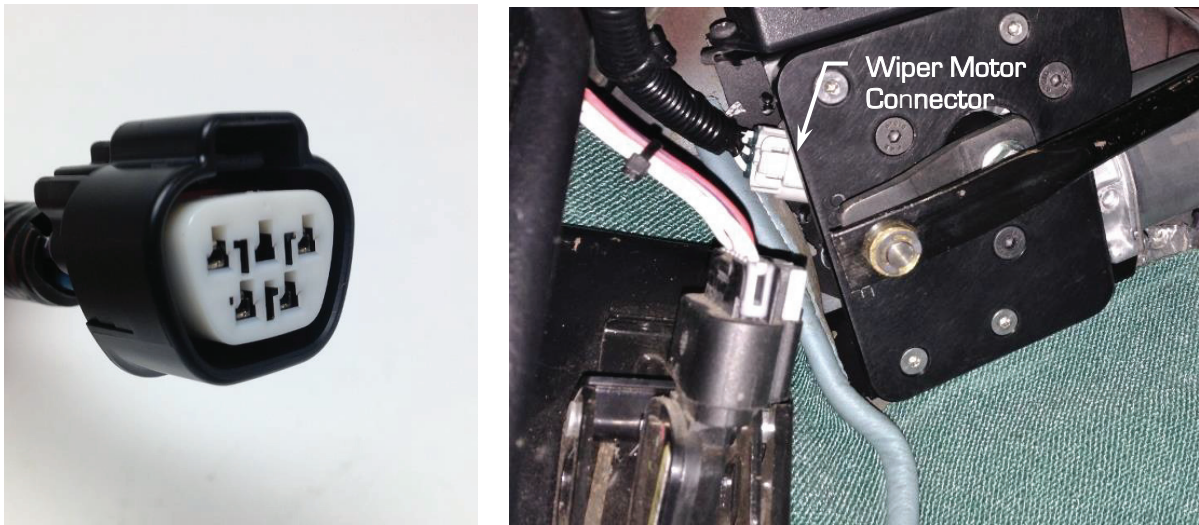

Figure 13 - Wiper Motor Connector
18. Install the wiper motor connector side of the wiring harness into the wiper motor (Figure 13).